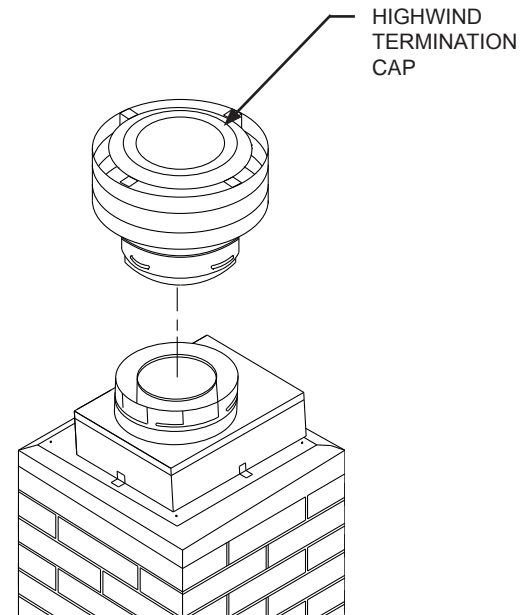

FIG. 7
**Step 8.** Twist lock the Vertical Termination Cap to the Adaptor (See FIG. 7).